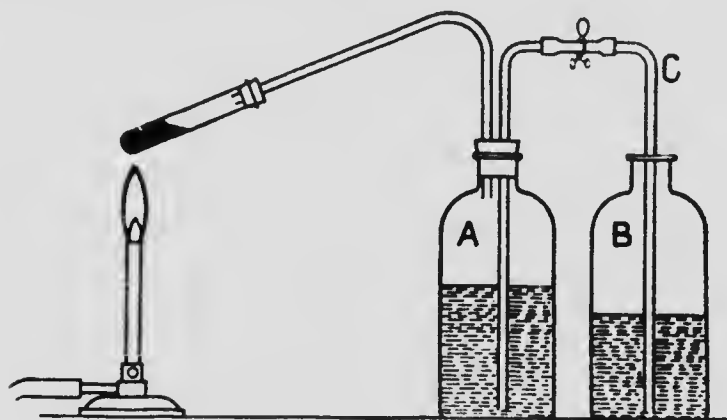

FIG. 33.
**Sketch.** Fig. 33.
**Experiment.** (1) Weigh the hard glass tube containing about 2.7 grammes of potassium chlorate. (Wt. X.)
(2) Fit up the apparatus as shown in Fig. 33.